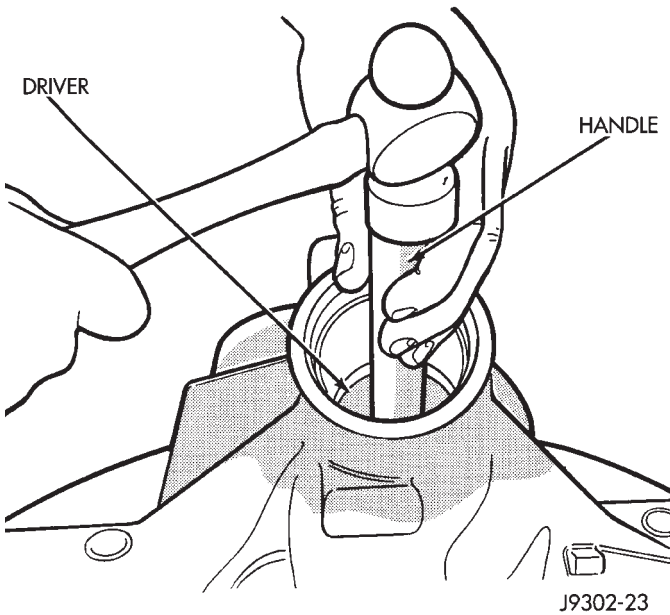

Fig. 40 Rear Bearing Cup Removal
- (8) Remove the rear pinion bearing cup from axle housing (Fig. 40). Use Remover D-149 and Handle C-4171.
- (9) Remove the depth shims from rear pinion bearing cup bore in axle housing. Record the thickness of the depth shims.